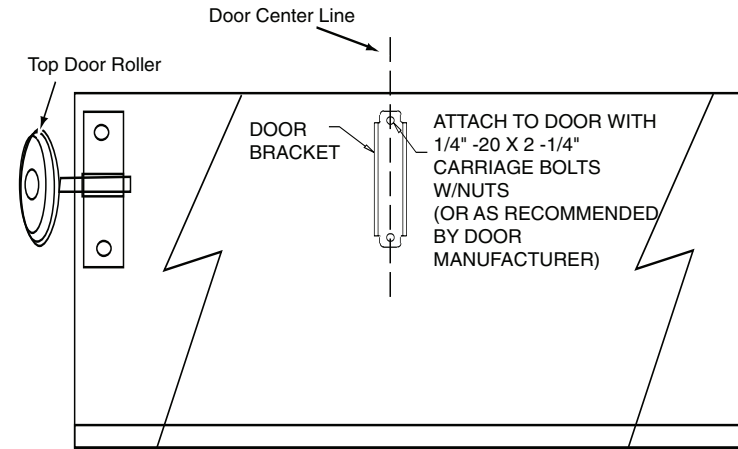

Figure 11
- 2) Position the door bracket on the door as shown in **Fig. 11**, with mounting holes on the door centerline. (Even with or above top door roller).
- 4) Use two (2) 3/8" -16 X 7/8" bolts and nuts to attach the door curved door arm to the straight drawbar arm.